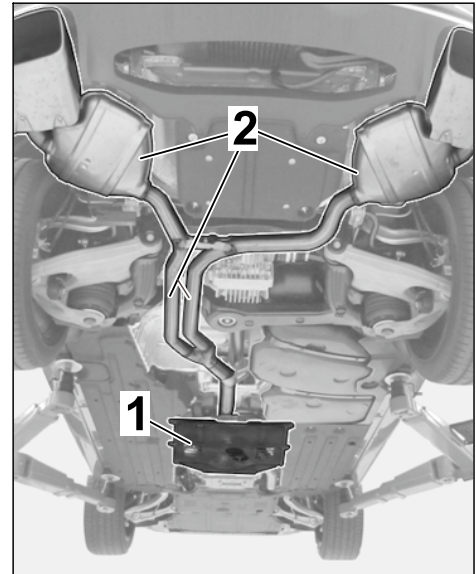

Figure 6
- 1.3.1 Remove tunnel cover on –center–underbody (⇒ *Figure 6*, ⇒ *Workshop Manual '519319 Removing and installing cover for centre underbody*).